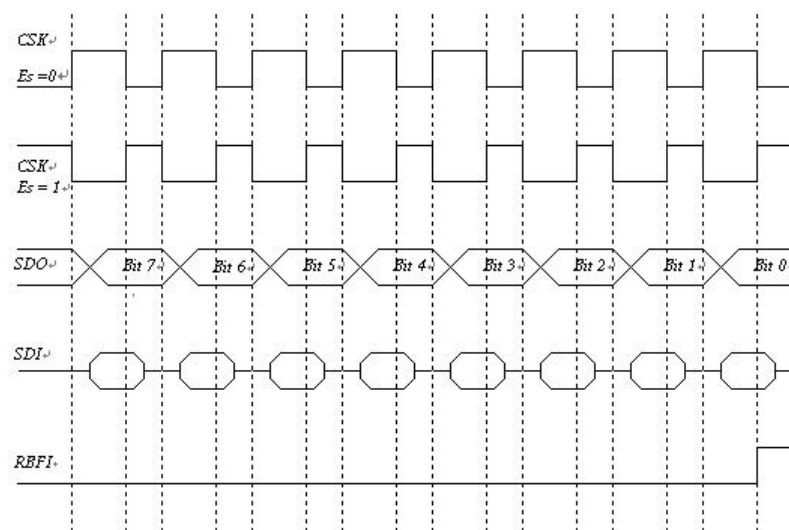
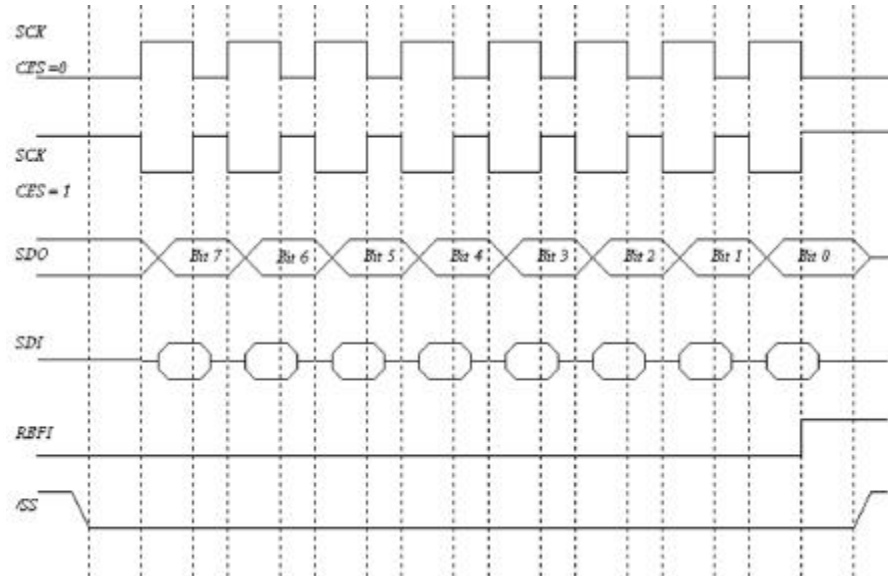

Fig. 13 SPI Mode with /SS Disable
Fig. 14 **SPI Mode with /SS Enable**
- Timing is shown in Fig.13 and Fig. 14.
- Timing is shown in Fig.13 and 14.
- Timing is show in Fig.13 and 14
The edge of SCK is selected by programming bit CES. The waveform shown in Fig.13 is applicable regardless of whether the EM78451 is under master or slave mode with /SS disabled. However, The waveform in Fig. 14 can only be implemented in slave mode with /SS enabled.